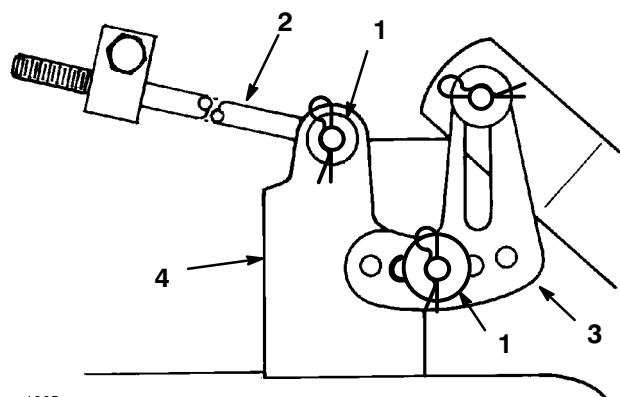

Figure 41
10. Remove the hairpin cotter and washer from the end of the long rod (Fig. 41). Slide the rod out of the mower mount.
11. Remove the hairpin cotter and washer at the mower leveling bracket (Fig. 41). Slide the bracket off of the mounting pin. Install the washer and hairpin cotter for storage.